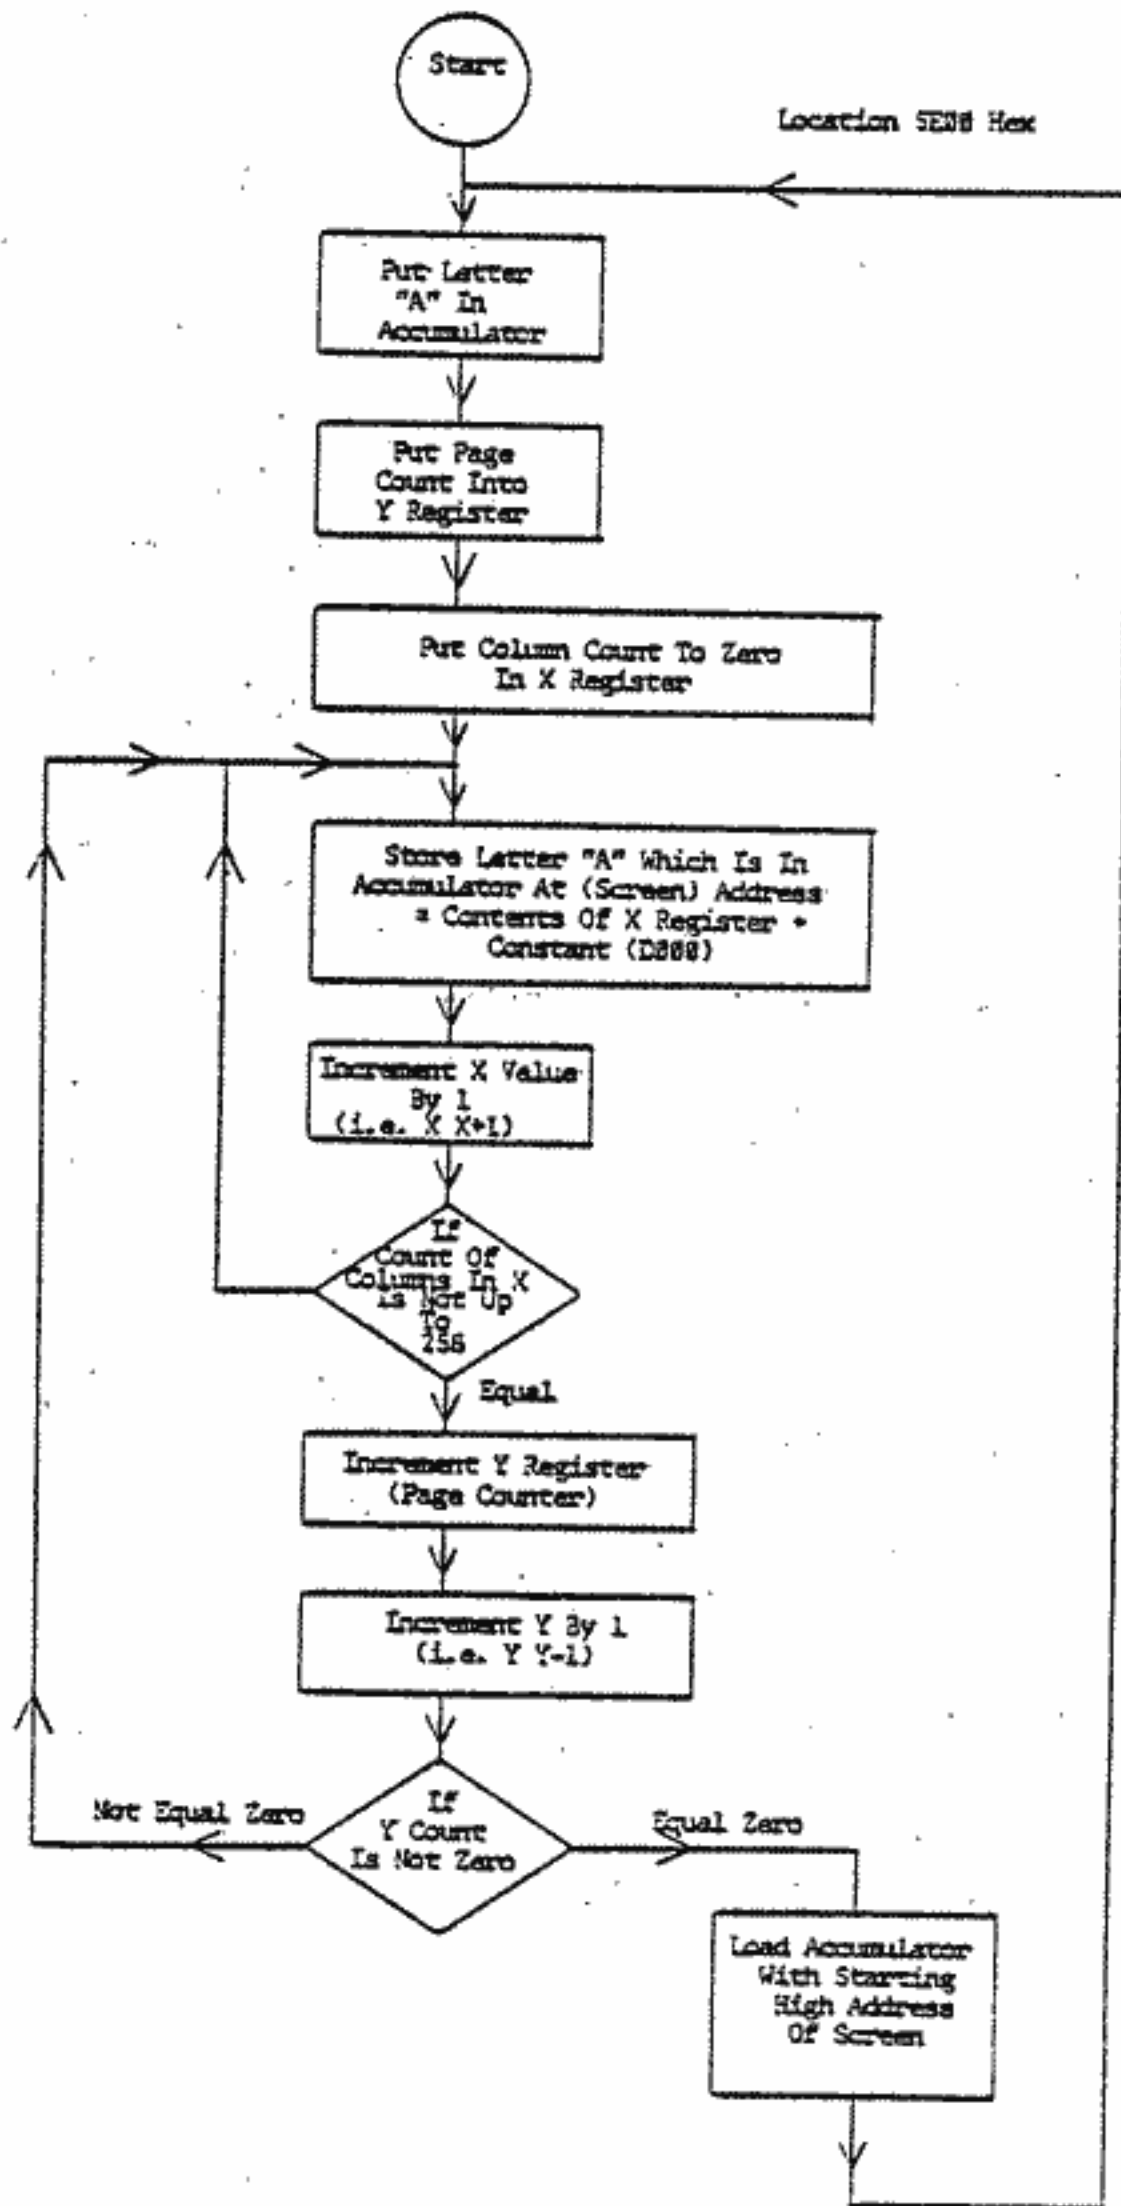

FIGURE 4
To illustrate the USR(X) routine, we shall write a routine to clear the CRT terminal screen. We shall place the letter "A" at each screen position, sequentially to illustrate the speed of this routine. Of course, replacing the letter "A" with the symbol for a blank would produce a general screen clearing. This program is described by a flow chart in Figure 4 which is reduced to